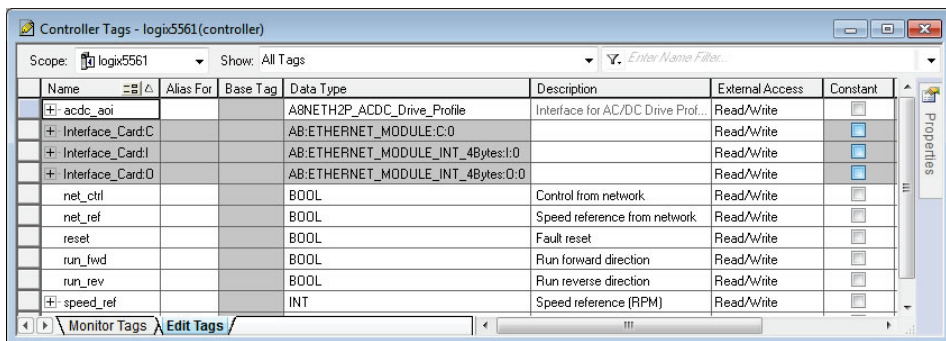

Figure 53: Create AC/DC Drive Profile AOI Tags
- 4) Create the tags shown in Figure 53.